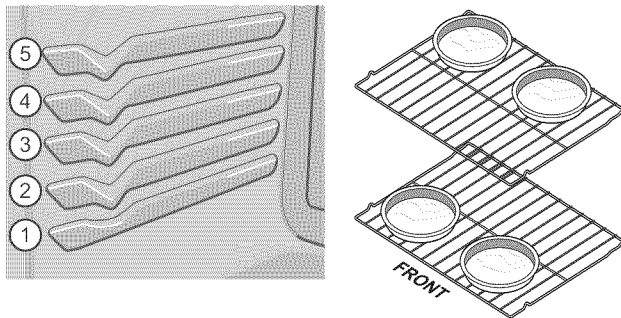

Figure 23: Convection rack positions (L) and pan spacing (R)
- For best results when baking cakes using two oven racks, place racks in positions 2 and 4 as shown in Figure 23.